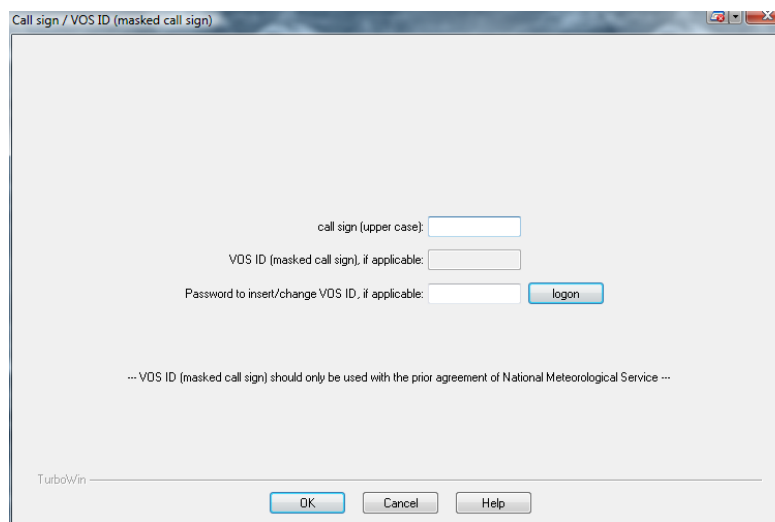

Figure 6. Call sign dialogue box
- 10.1.1.** If the **call sign** and **VOS ID** (if applicable) were entered during the setup by the PMA, these values will automatically populate the dialogue box shown in **Figure 6**. The element will appear completed; i.e. recessed on the toolbar and ticked on the Input menu.